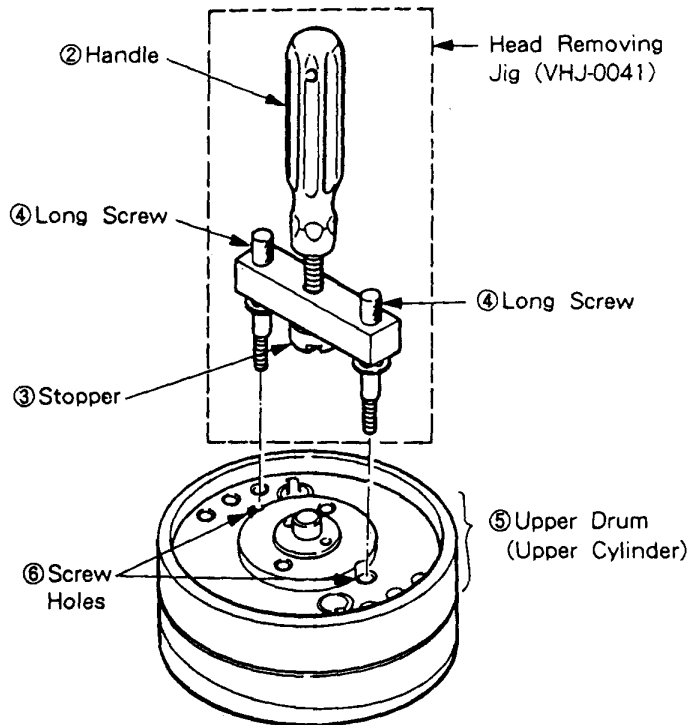

Fig. 5-11-5
- 3) Turn the head removing jig (VHJ-0041) handle ② counterclockwise to lift up the stopper ③ (see Fig. 5-11-5.).
- 4) Insert the two long screws ④ of the jig into the screw holes ⑥ located on the head chip side of the upper drum (UPPER CYLINDER) ⑤, then mount by turning the handle clockwise.
- 5) While holding the jig so that the upper drum ⑤ does not rotate, turn the handle ② clockwise to remove the upper drum.